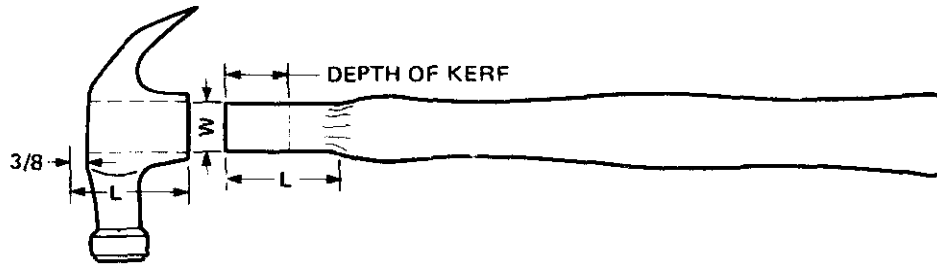

Fig. 11-17 Fitting hammer handle.
4. Shape the end to a slight taper so that it can be worked into the head about $\frac{3}{8}$ inch beyond the width of the head. See figure 11-17. The end should be shaped so that it is aligned with the rest of the handle.